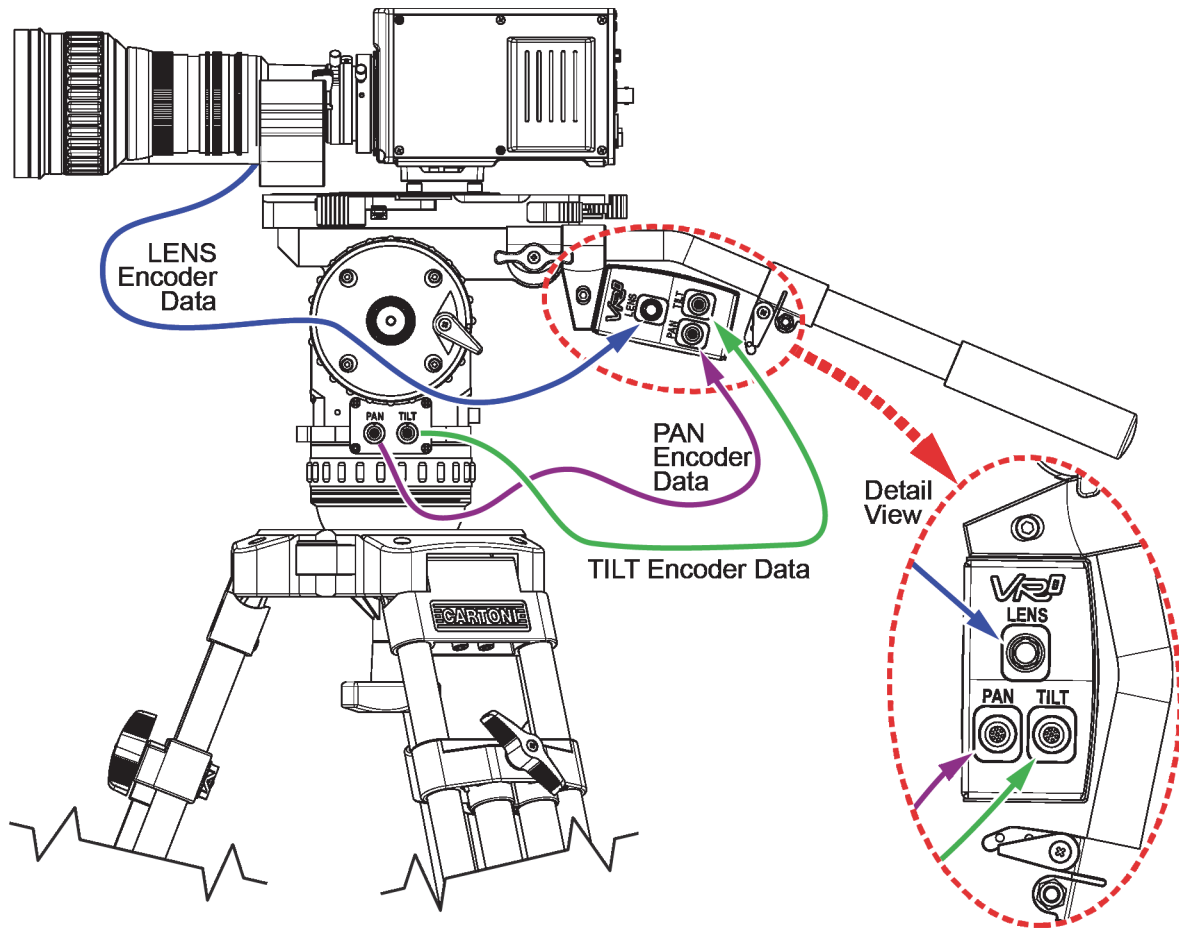

Figure 3.9 - Connecting Encoder Data Cables (PAN, TILT, and LENS)
1. Connect the encoder data cables (see Figure 3.9):
Tip: The PAN and TILT encoder data cables are identical. They are approximately 25" (64cm) long and each has a tag showing part number 5120CR-305-xx. In Figure 3.9, the PAN data cable is shown as purple, and the TILT data cable is shown as green.
- b. Connect the LENS encoder data cable from the lens to the VRzero module. In Figure 3.9, the LENS data cable is shown as blue.**